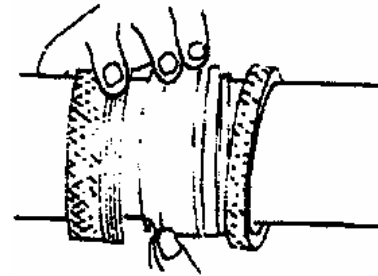

Figure 14. Installing Snap Retainer
- d. Install snap retainer to enclose both tube ferrules (Figure 14).